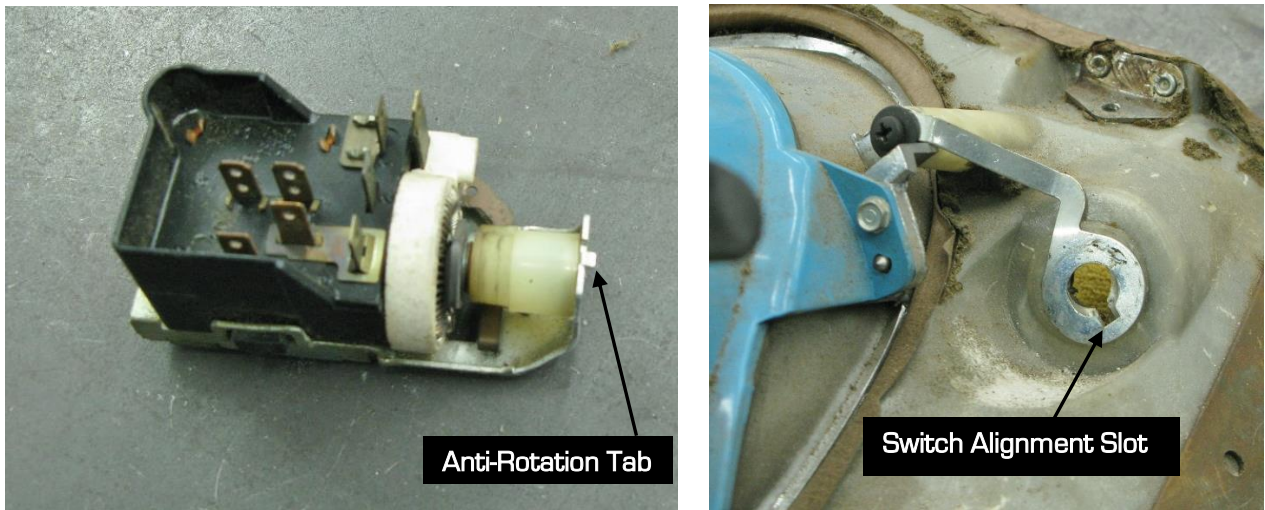

Figure 39 – Install Headlight Switch
47. Remove the headlight switch knob and reinstall the headlight switch into the dash. **NOTE:** Make sure the anti-rotation tab on the switch lines up with the alignment slot on the dash (Figure 39 on the next page). Install the headlight switch retaining nut and install the headlight switch knob.